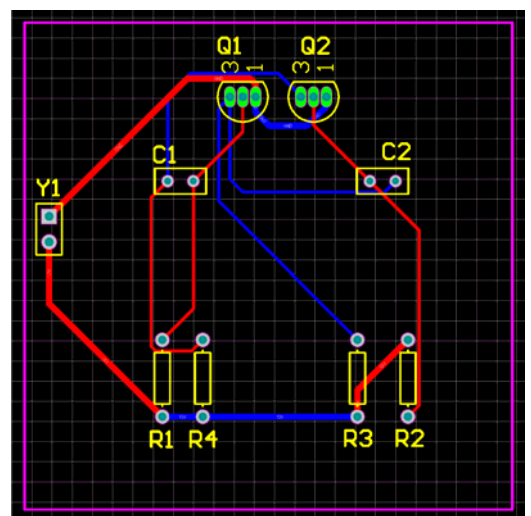

Figure 9. Manually routed board, with tracks placed on top and bottom layers.
- Use either of the above methods to route between the other components on the board. Figure 9 shows a manually routed board.